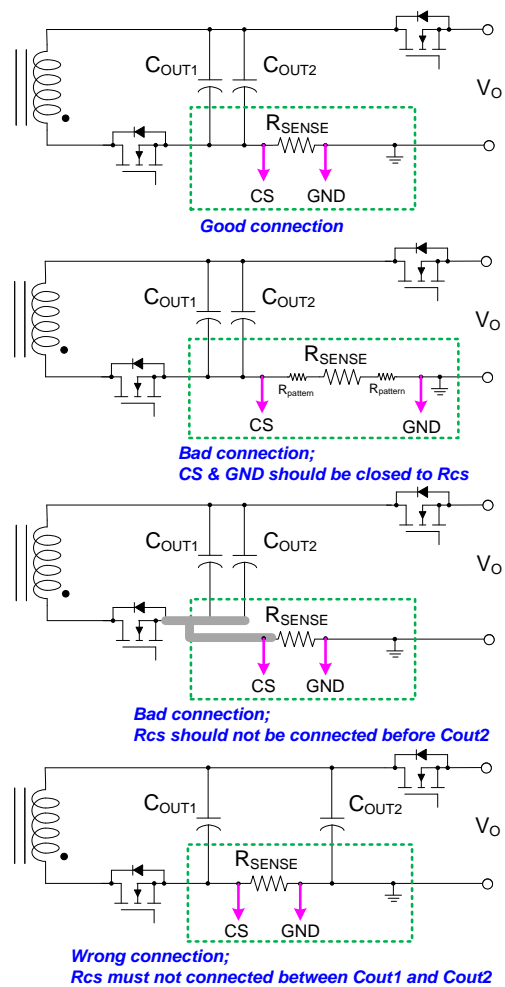

Figure 33 Examples of Sensing Resistor Connection
Printed Circuit Board (PCB) layout and design are very important for switching mode power supplies where the voltage and current change with high speed. Good PCB layout minimizes Electro-Magnetic Interference (EMI) and prevents excessive noise from surge or Electro-Static Discharging (ESD). As shown in Figure 33 COUT1 and COUT2 are the output capacitors; Q2 is the secondary-side SR MOSFET. The following guidelines are recommended for layout designs.
- The sensed voltage via RCS is very small value. In order to avoid offset voltage or avoid inducing switching noise on the sensed voltage, RCS should be connected between ground of COUT2 and power ground. And RCS should be positioned as close as possible to CS pin and GND pin. Refer to Figure 33.